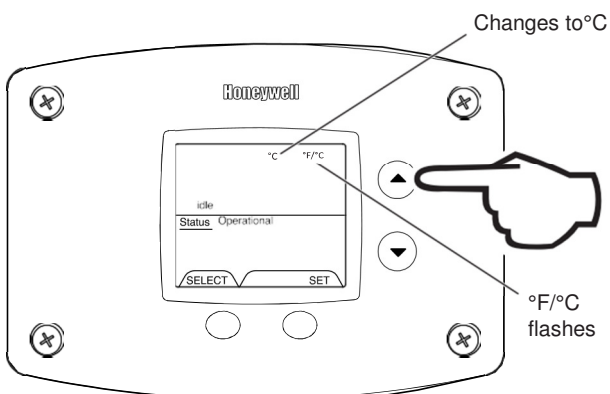

Figure 21
- 3a. Press 'Temperature Up' button to change temperature format to °C (Fig. 21).